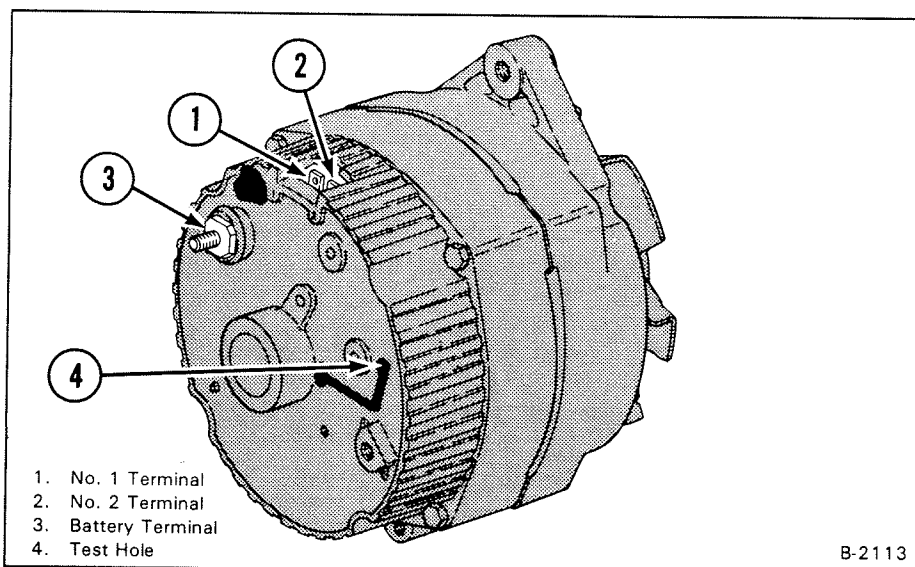

Fig. 6-6 Alternator
- (1) Turn the key switch "ON".
- (2) Connect a voltmeter between ground and:
- (a) No. 1 alternator terminal (Fig. 6-6, Item 1).
- (3) If any of these tests show zero voltage, the wiring needs repair.